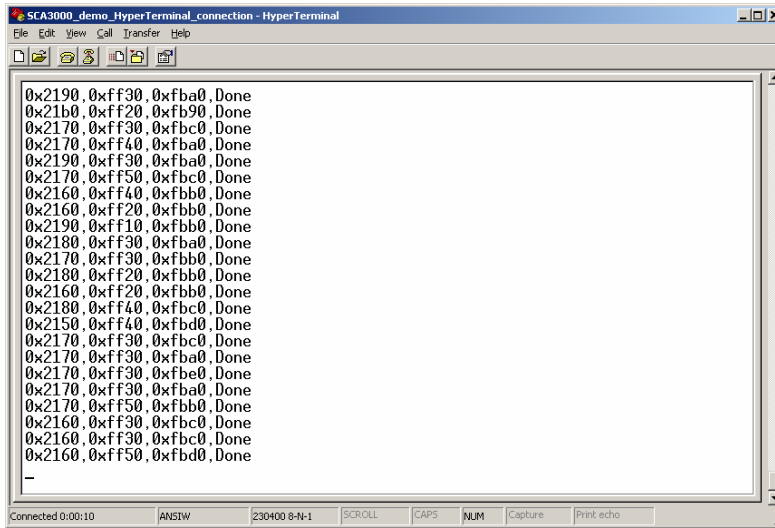

Figure 15. SCA3000 demo output during data logging.
7. The text file is actually a macro that runs in an endless loop. The macro sends 3-axis acceleration data in hex format to HyperTerminal (see Figure 15). Example of data format: `0x1ef0,0x0130,0x01f0,Z-Y-X` where “0x” indicates for hex format, and “Z-Y-X” the axis order. The Z-axis hex output is 1EF0, which is ‘0001 1110 1111 0000’ in binary format.